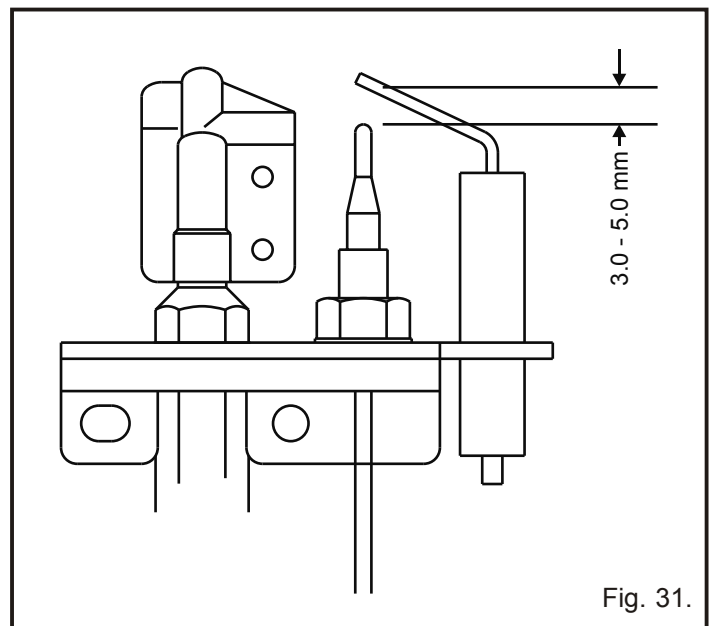

Fig. 31.
NB. The spark gap between the electrode and thermocouple tip should be between 3.0 and 5.0mm (See Fig 31.).
- Check the spark gap and electrode alignment (see Fig 31). The electrode, thermocouple probe and horizontal arm of the pilot burner should be in a straight line.